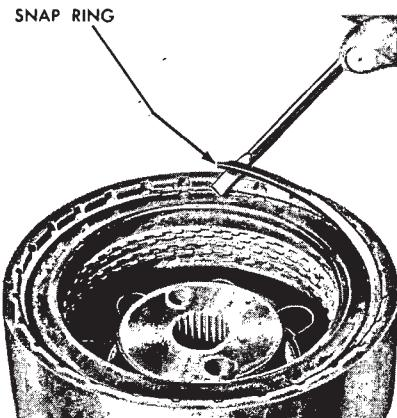

FIG. 81—Removing or Installing Forward Clutch Pressure Plate Snap Ring
1. Remove the clutch pressure plate retaining snap ring (Fig. 81).